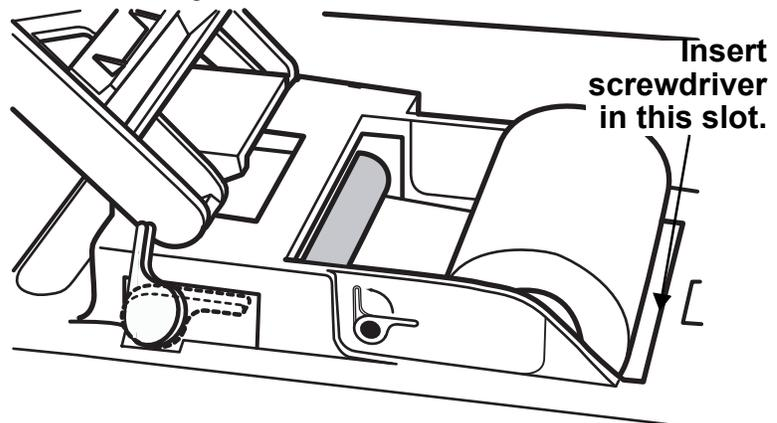

Figure 7-3: Recorder Module Removal
- c. Using a long flat-blade screwdriver, insert the blade into the hole where the tab of the paper door was resting (see "Figure 7-3: Recorder Module Removal"). Press the blade firmly between the module housing retaining tab and the cutout in the top cover of the 507ELC2. At the same time, gently lift up on the module housing. The recorder/printer module should dislodge from the top cover at this time. Close the paper door to prevent the roll of paper from escaping.